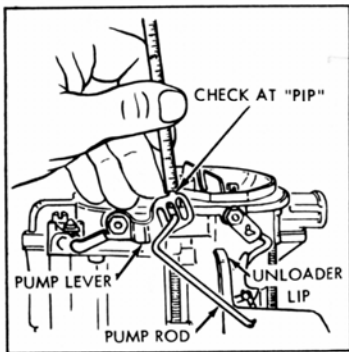
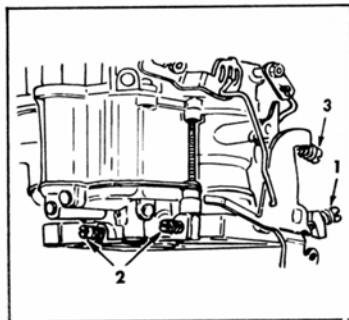

Fig. 2
Fig. 4
b. Pump Rod Adjustment. (See figure 2.) Refer to Adjustment Data Table for correct setting. Back out throttle stop screw (1, figure 4) until throttle valves seat in carburetor bore, and measure at "pip" on pump lever the total movement of pump lever between fully closed and fully open positions of throttle valves. Pump rod must be in center slot of pump lever. Bend pump rod to obtain desired travel.
d. Fast Idle. (See figure 4.) Back out throttle stop screw (1) until throttle valves are seated in carburetor bore. Position fast-idle cam so that fast-idle stop screw (3) is on high step of cam. Back out screw (3), if necessary, then rotate it in (clockwise) until it just touches high step of cam. From this point of initial contact rotate screw (3) clockwise exactly 3-1/2 turns.
e. Unloader. (See figure 2.) Apply light finger pressure on the choke valve to take out all linkage back lash, holding it in closed position. Open throttle valves to full wide-open position and measure the distance between edge of choke valve and air horn wall. This distance should be as listed in the Adjustment Data Table. Bend unloader lip to adjust.
f. Idle Adjustment. (See figure 4.) Install carburetor on engine and run engine until warm. Adjust throttle stop screw (1) to produce a speed of 450 to 500 rpm. Rotate idle needles (2) until engine idles smoothly. Re-adjust screws (1 and 2) alternately until desired results are obtained.